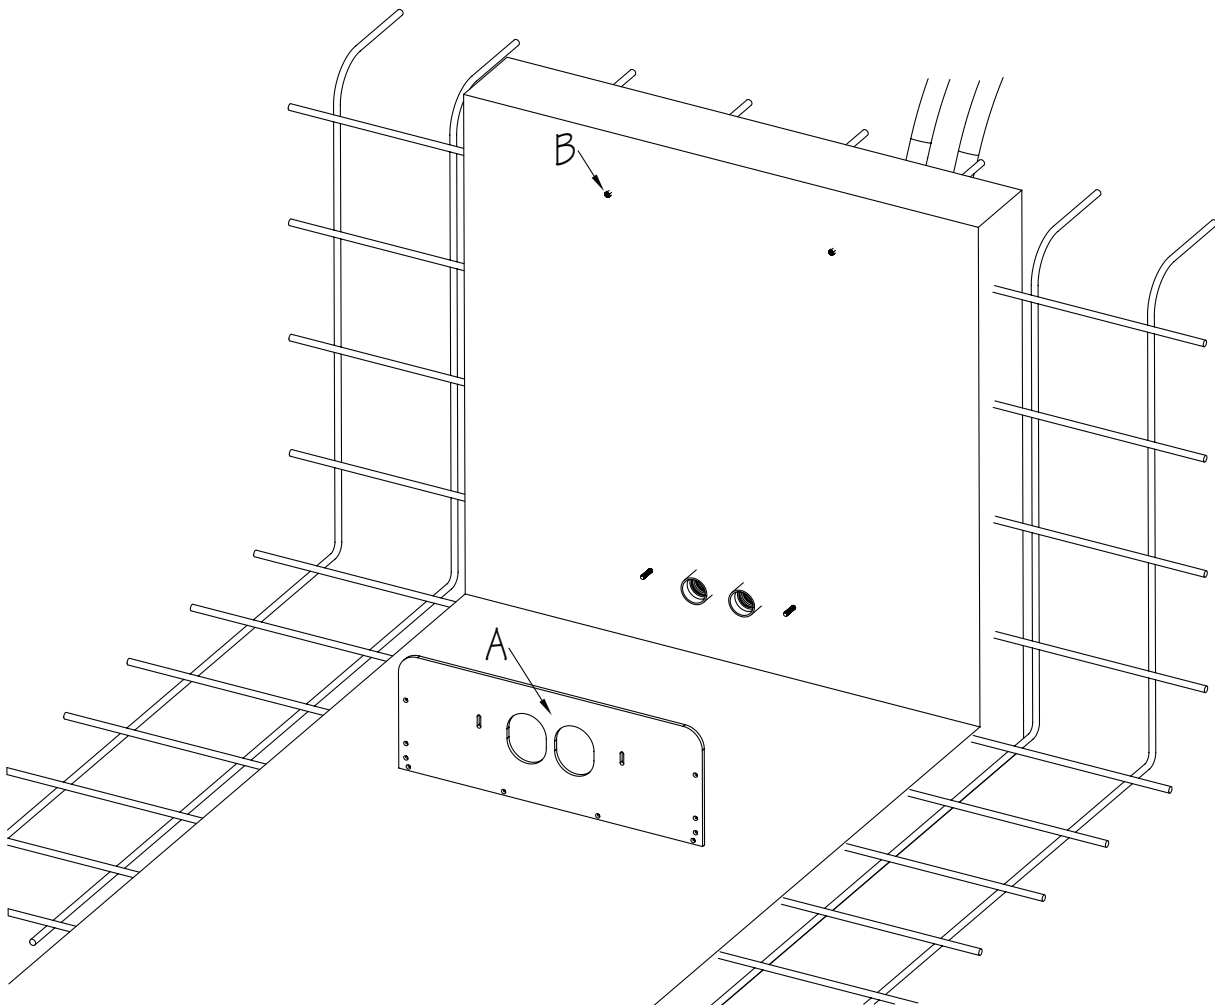

Fig. 8
Once the guniting is shot up to the back of the template (A), it should be removed prior to the finish coat application. The Sacrificial Bolts (B) can be removed once the finish coat cures (Fig. 8).